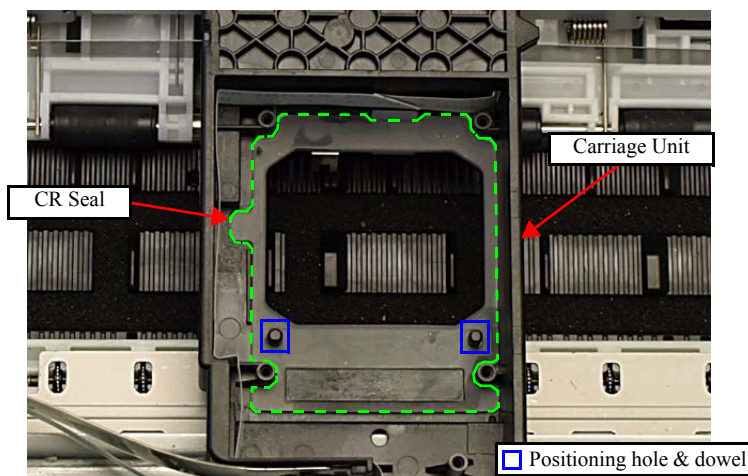

Figure 4-62. Installing the CR Seal
- Do not damage or contaminate the CR Seal, or touch it with bare hands either. (See Fig. 4-62.)
1. Make sure of the installing condition and correct it if there is any gap. (See Fig. 4-62.)